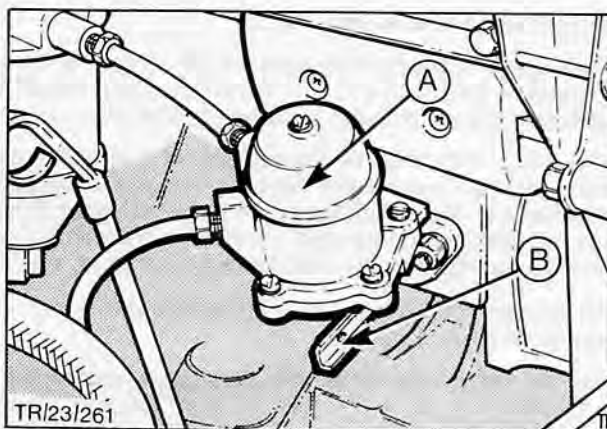

Fig. 3. Fuel pump assembly
A. Fuel Lift Pump, Fig. 3.
The lift pump is mounted on the side of the injection pump (Fig. 3) and is operated by a cam lobe. The pump is not a sealed unit and replacement parts such as a new diaphragm are available.
An additional feature of the lift pump is a hand priming lever (Refer Fig. 3) which should be used when initially bleeding the fuel system.